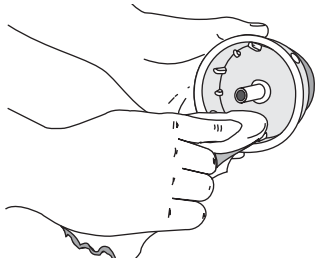

Fig. 14
4. Use a clean cloth to clean the the inner reel, spring, shaft and inner surface of the outer spool (Fig. 14).